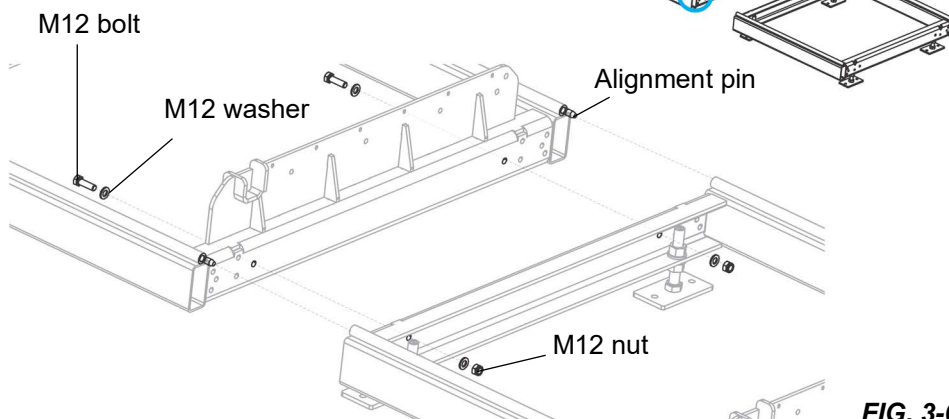

FIG. 3-6
4. Slide the sections together as shown in Figure 3-6.
6. Secure the bed sections together as shown in Figure 3-6, drawing the top surface together smoothly.